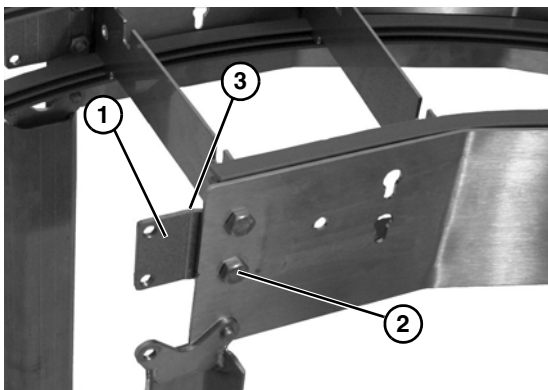

Figure 7
1. For joining curved to straight sections, install offset connecting plates onto curved section (Figure 7, item 1) with four hex head bolts (Figure 7, item 2) with heads of bolts outside of curved section.
2. Ensure that the offset of connecting plates is to the inside of curved section (Figure 7, item 3).